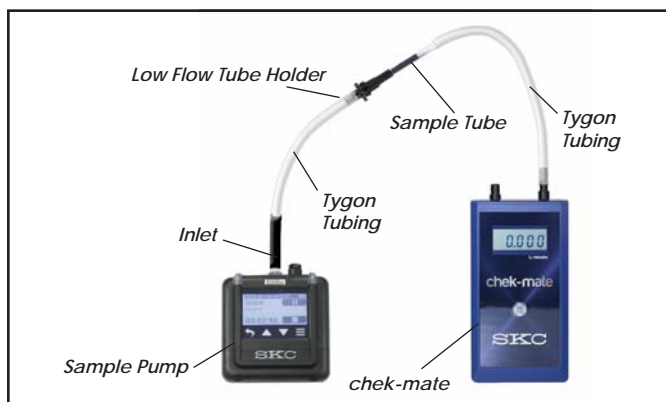

Figure 2. Calibration train using a single (non-adjustable) low flow tube holder and Pocket Pump TOUCH
3. Calibrating the Flow Rate — Figure 2